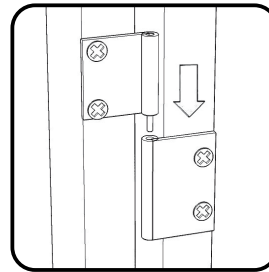

Figure 6
Attach Doors (N) and (O) to unit by sliding door hinges into side panel hinges. (See Figure 6)